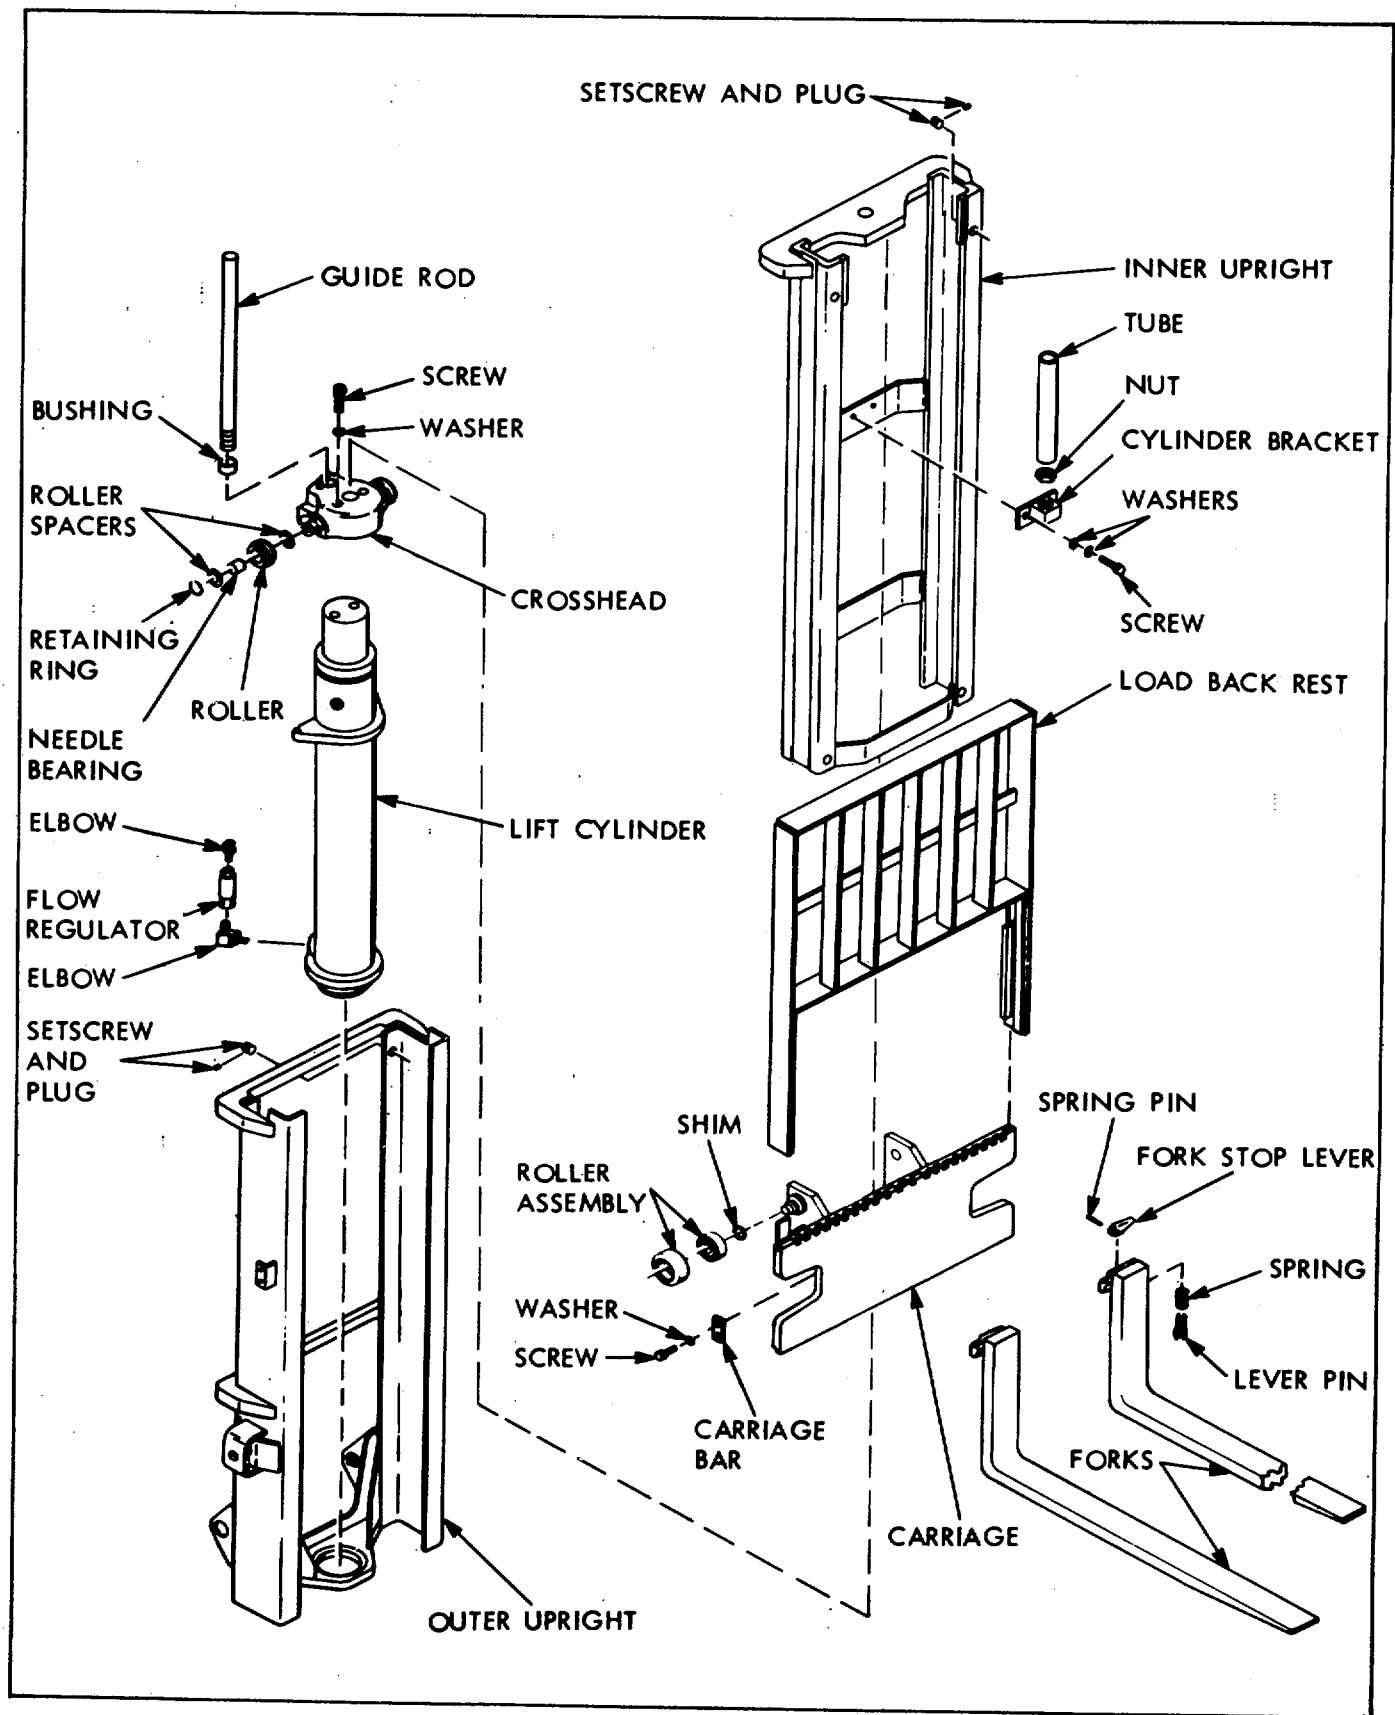

Figure 6-19. Mast Column, Exploded View
(1) Remove chains (paragraph 6-30).
(2) Remove hoist cylinder (paragraph 6-37).
(3) Lift off load backrest (figure 6-19).
(4) Raise inner upright slightly, loosen nut at bottom of guide rod and unscrew rod from cylinder bracket on inner upright. Remove rod, tube, nut, and bushing within crosshead. Remove crosshead.
(5) Disassemble crosshead as follows: